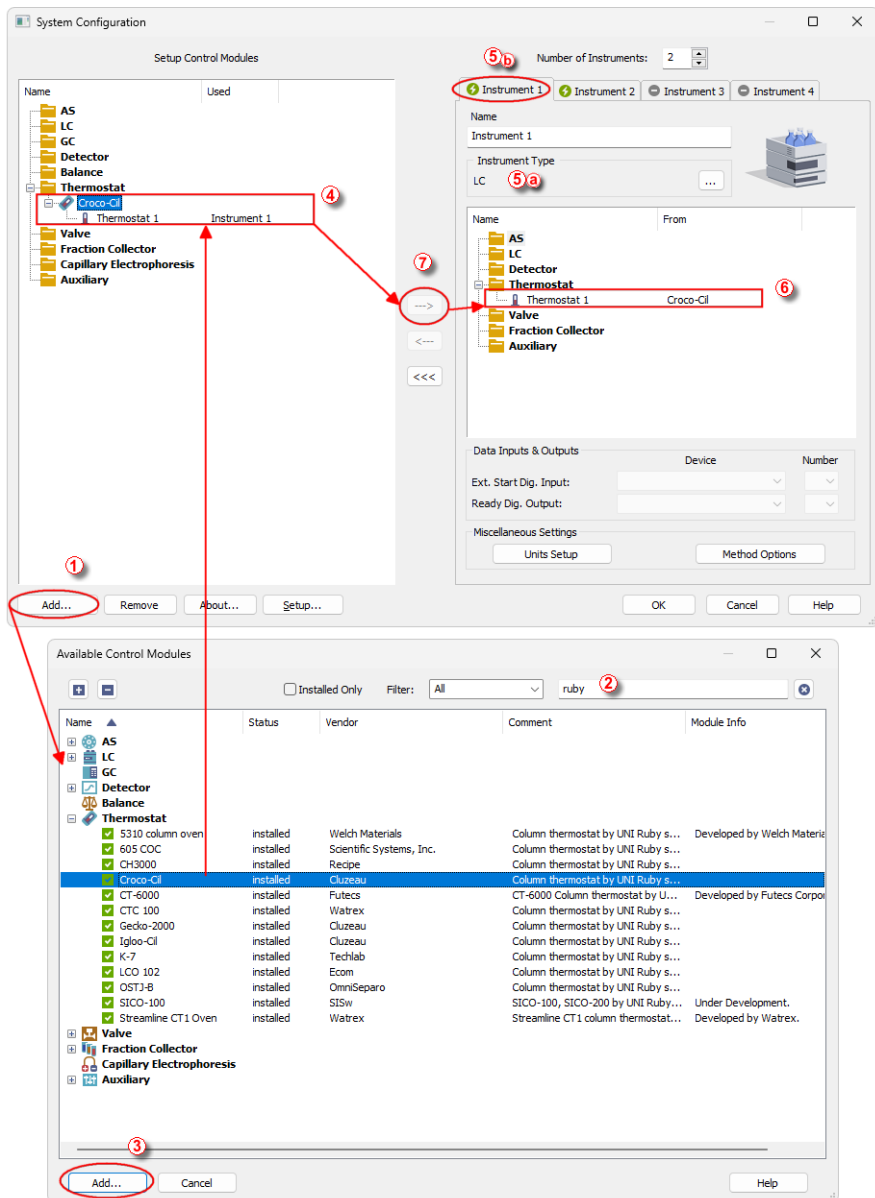

Fig. 3: How to Add Cluzeau Croco-CIL module
- Press the *Add* button (① on **Fig. 3** on pg. 4.) to invoke the *Available Control Modules* dialog.
- You can specify the search filter (②) to simplify the finding of the driver.
- Select the correct item and press the *Add* (③ on **Fig. 3** on pg. 4.) button. Each device with already created UNI profile should have its own item named accordingly in the *Available Control Modules* dialog.